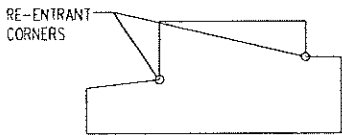

FIG. 1
58. WOOD ROOF DIAPHRAGM SHALL BE POSITIVELY CONNECTED TO STRUCTURAL SYSTEM TO TRANSFER 500 PLF LATERAL SHEAR FORCE ABOVE ALL WALL FOOTINGS IN ACCORDANCE IBC 2003 AND ACI 530. WOOD ROOF DIAPHRAGM SHALL BE DESIGNED FOR DRAG FORCES USING DRAG STRUTS AT RE-ENTRANT CORNERS (SEE FIG. 1)